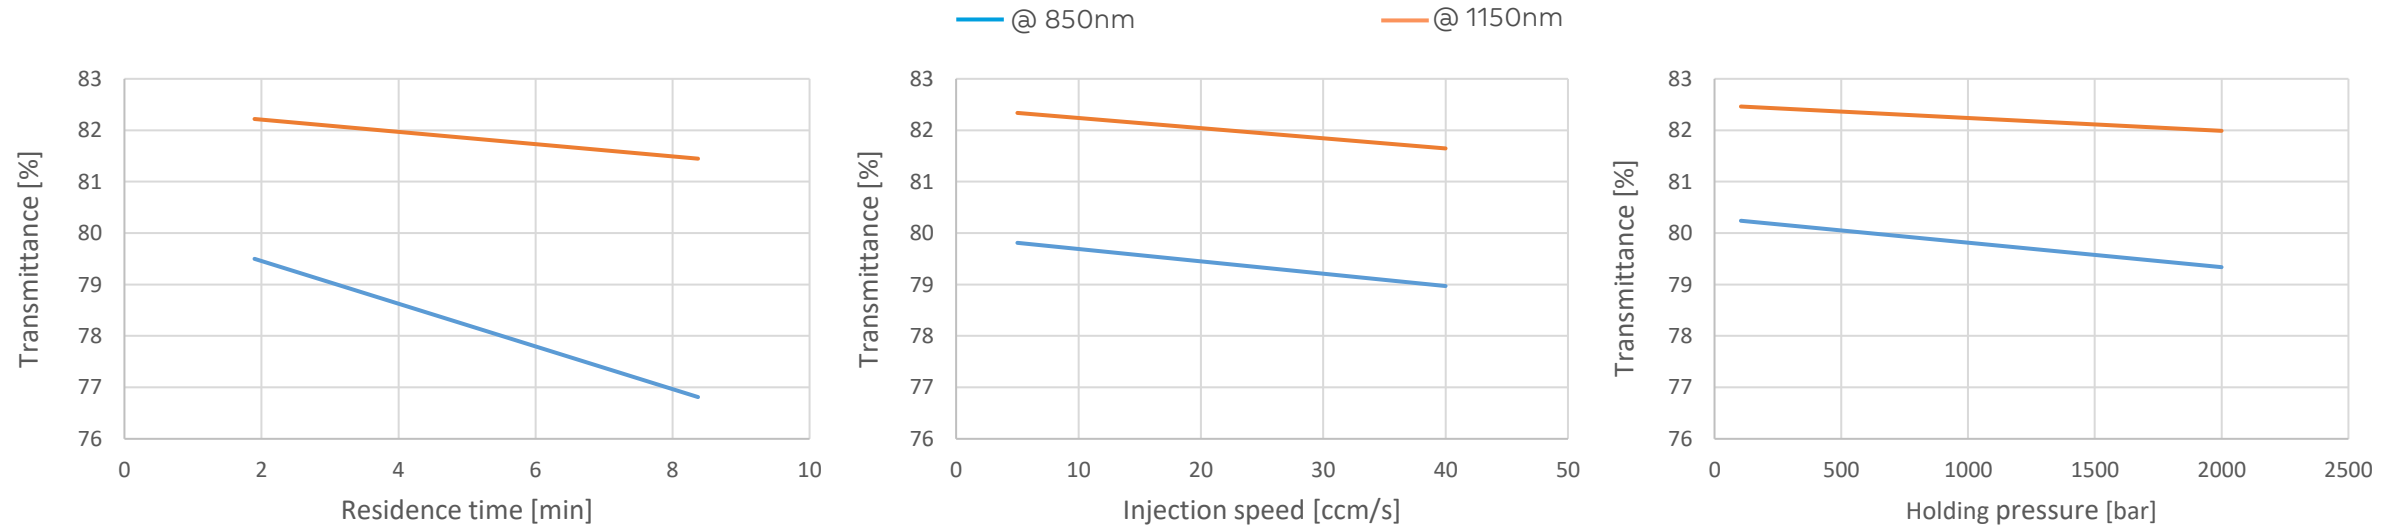

Fig. 4-12 : Effects of molding conditions on IR transmittance of EXTEM RH1016UCL resin, measured on 1mm thick optical plaque.
- Figure 4-12 shows IR transmittance of EXTEM™ XH1016UCL resin, measured on a 1 mm thick optical plaque.